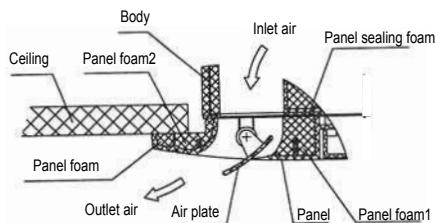

Fig. 5-12
- Keep fastening the screws under the panel hooks, until the thickness of the sponge between the body and the panel's outlet has been reduced to about 4~6mm. The edge of the panel should contact with the ceiling well. (Refer to Fig. 5-12)